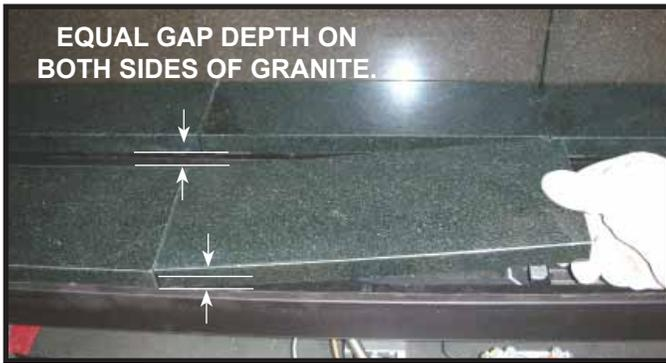

Figure 16. Installing Inner Front Granite Pieces.
- Install the three inner front base pieces by placing them, one at a time, into position and centering them front to back. There will be a gap between the edge of the granite pieces and the burner area. See Figure 16. The correct orientation for the front pieces is 19-3/8 inches wide by 4-5/8 inches deep.